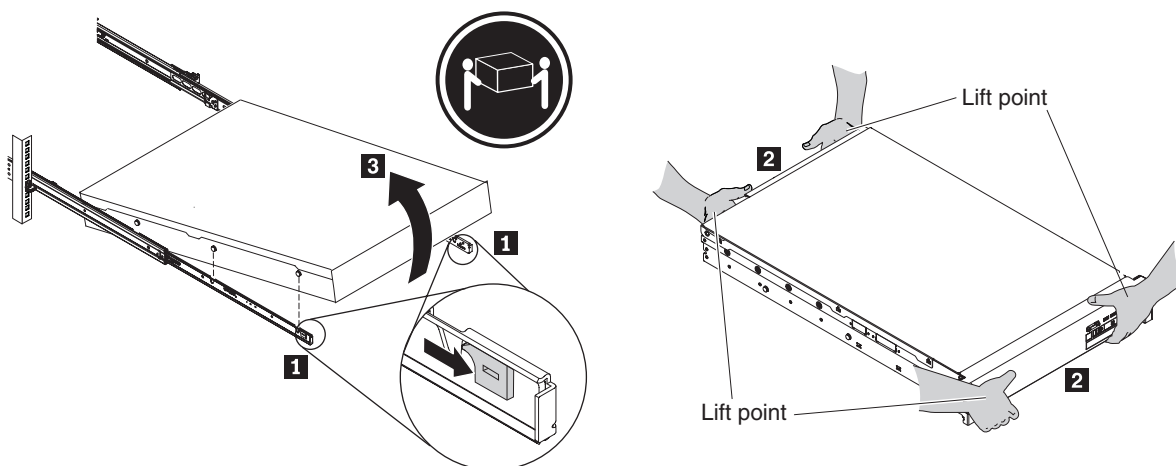

Figure 29. Unlatching and rotating the front of the appliance
Note: Make sure two people lift the appliance, with hands positioned as illustrated by **2** in Figure 29 on page 64.
1. Unlatch and rotate the front of the appliance, as shown in Figure 29 on page 64.